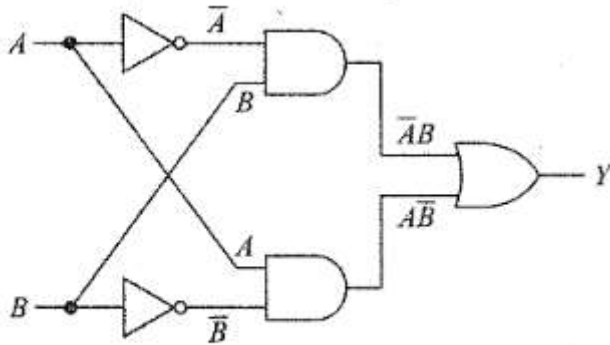

Fig. 4.29 Exclusive-OR gate
- The *exclusive-OR gate* has a high output only when an odd number of inputs is high. Figure 4.29 shows how to build an exclusive-OR gate.